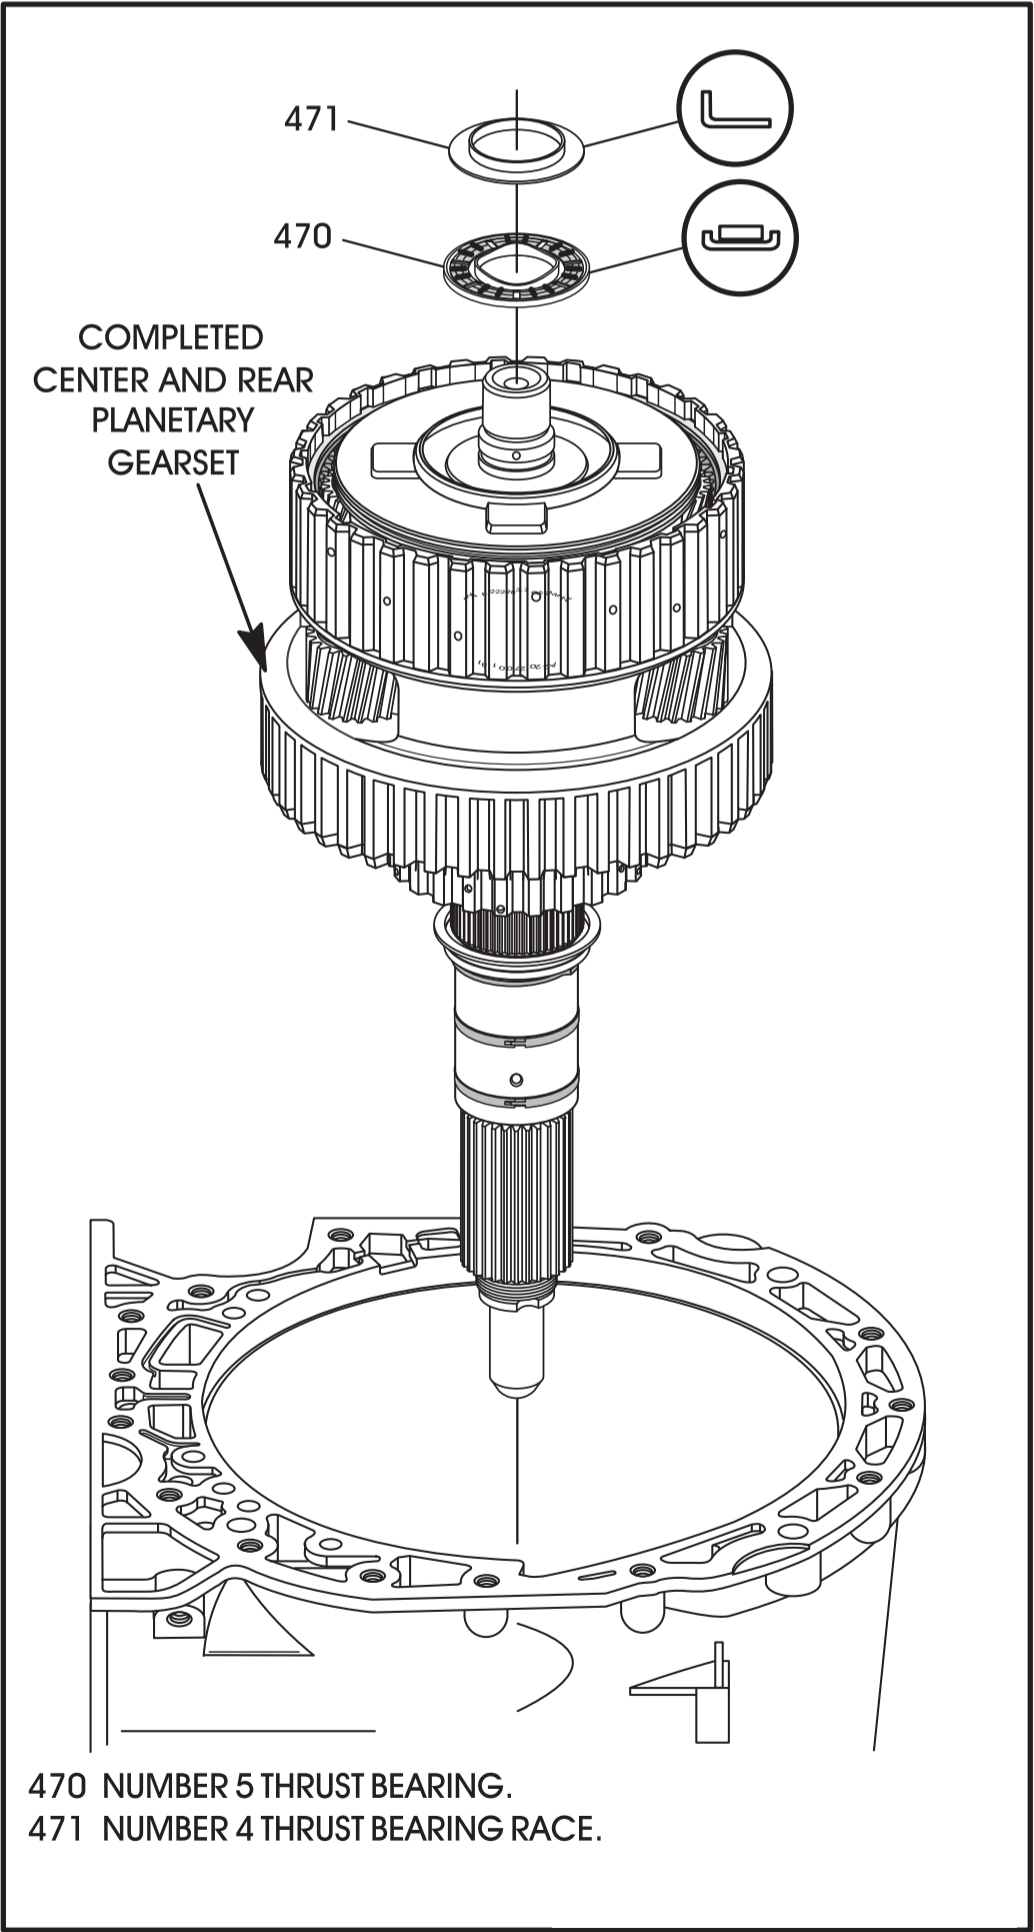

Figure 180
12. Install the completed center and rear planetary gearset, as shown in Figure 180, by rotating back and forth as you have 2 sets clutches to engage.
Note: Ensure number 5 thrust bearing is still in place, as shown in Figure 180. The number 4 thrust bearing race was installed on the K-2 clutch housing.